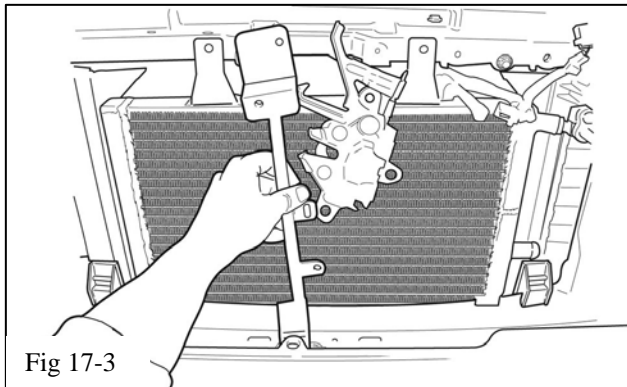

Fig 17-3
- (c) Install the new hood support bracket with the original fasteners (Fig 17-3).